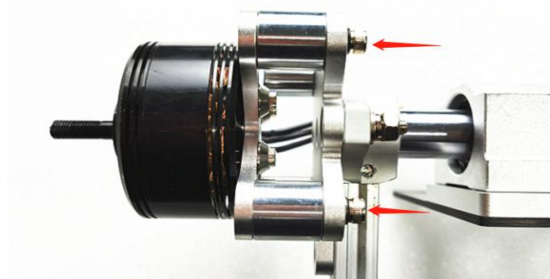

Fig. 2.1.5 Installation Complete
(3) Install the motor on test stand with screws. Motor cables should be on the side of the ESC Mounting Plate, as shown in Fig. 2.1.5: